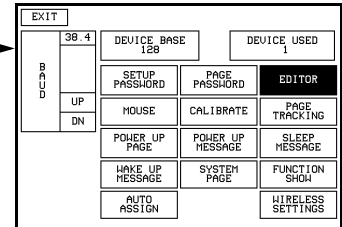

FIG. 4 Protected Setup page
4. Press **EDITOR** to enable Edit mode. The EDITOR button is highlighted in the Protected Setup page when enabled, as shown in FIG. 4.